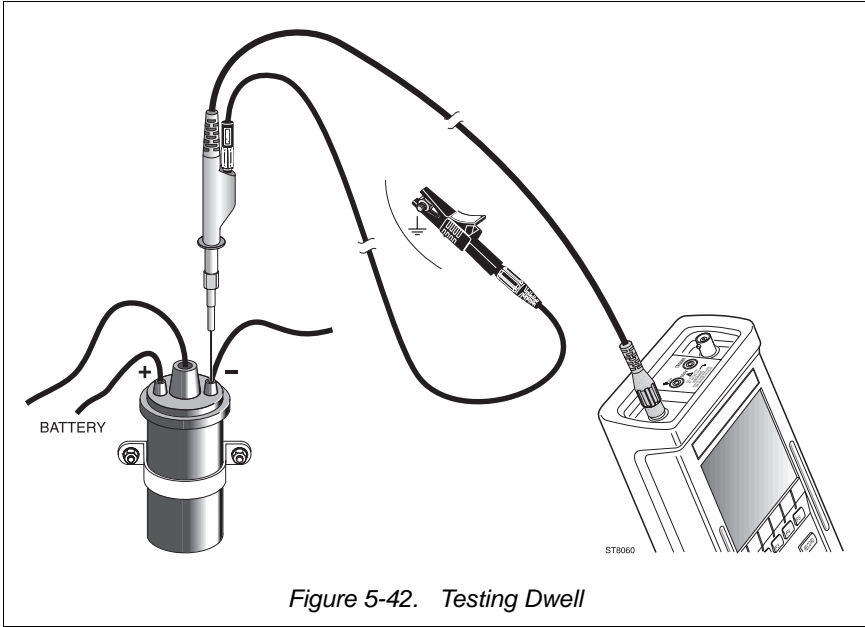

Figure 5-42. Testing Dwell
- Connect the test leads as displayed by the test tool's Connection Help and shown in Figure 5-42.